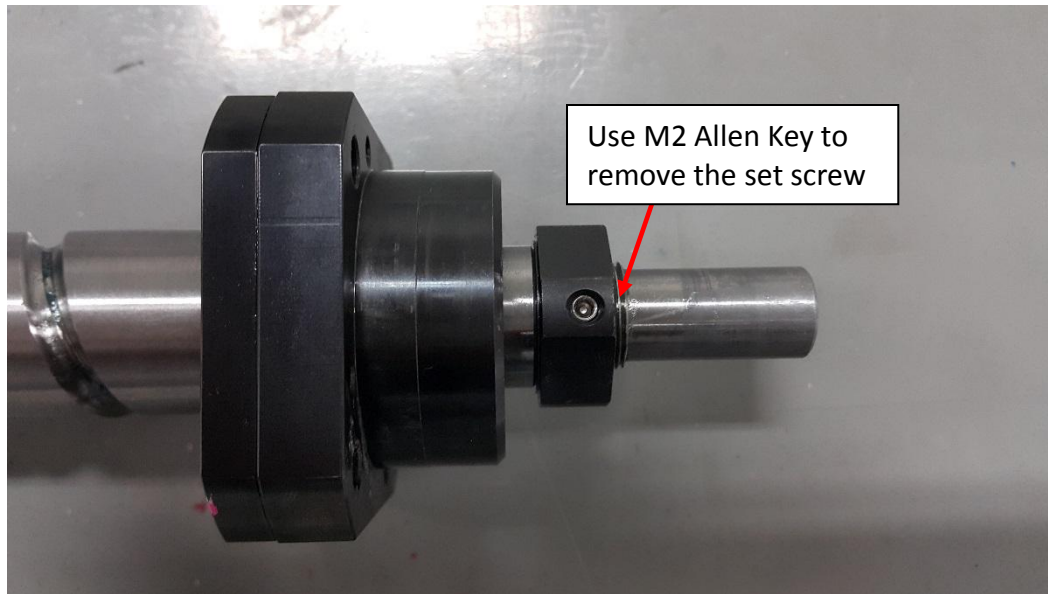

Figure 8 Set Screw
10. Using M2 Allen Key, unscrew the set screw as shown in Figure 8.